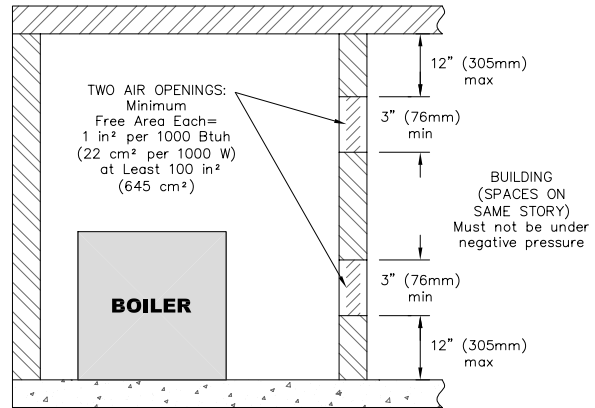

Figure 1.1: Air Openings – All Air from Indoors on the Same Floor
- Combining spaces on the same floor:** Provide two permanent openings communicating with additional spaces that have a minimum free area of 1 in² per 1000 Btu/hr (22 cm² per 1000 W) of the total input rating of all gas fired equipment but not less than 100 in² (645 cm²). One opening is to begin within 12 inches (305 mm) of the top of the space and the other is to begin within 12 inches (305 mm) of the floor. The minimum dimension of either of these openings shall be 3 inches (76 mm). See Figure 1.1 for an illustration of this arrangement.